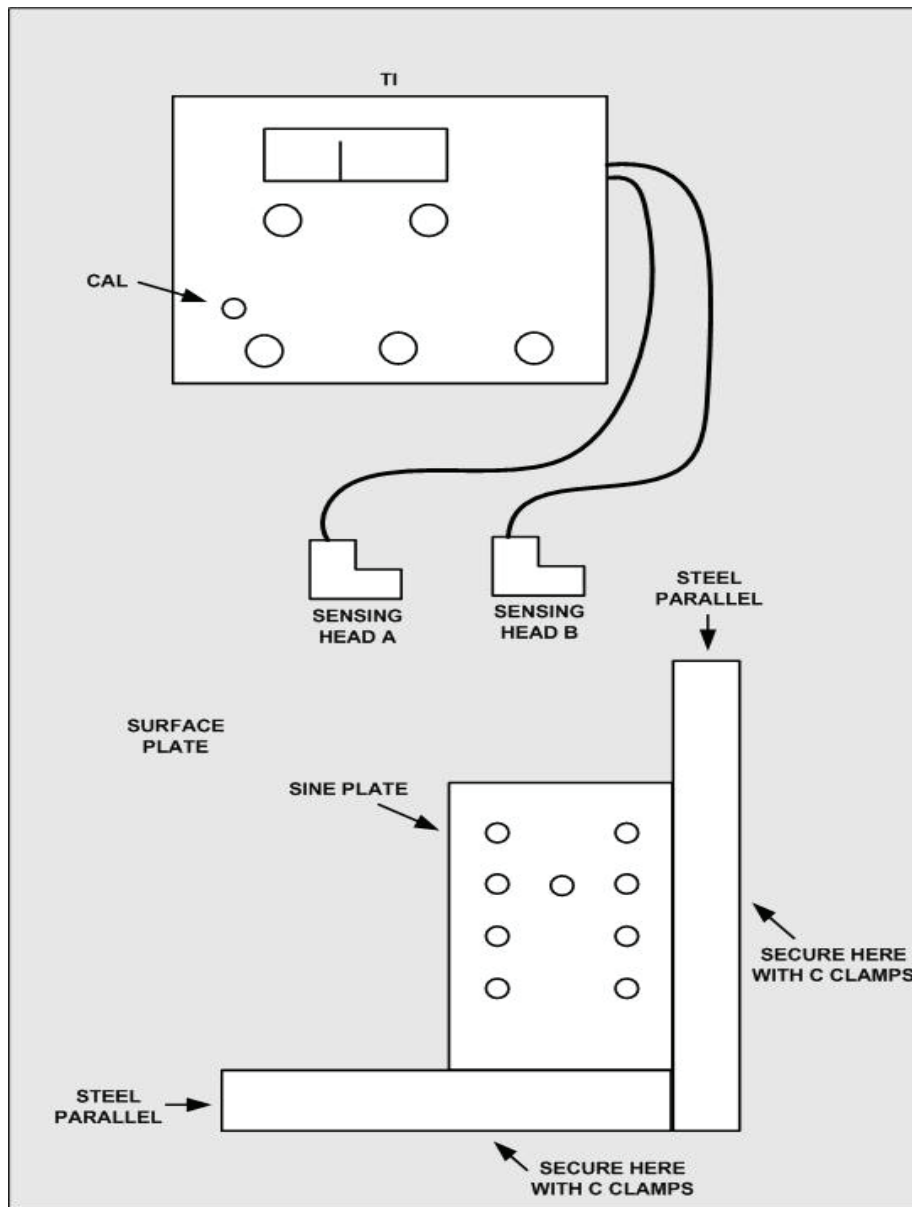

Figure 1. Scale magnification accuracy - equipment setup.
a. Connect TI SENSING HEADS A and B (fig. 1) to GAGE HEAD input A and B on TI rear panel.
b. Assemble equipment as shown in figure 1.
c. Set TI switches as listed in (1) through (3) below:
- (1) Place a 0.125 inch gage block under both ends of sine plate rolls.
- (2) Place SENSING HEAD A (fig. 1) on SINE PLATE (fig. 1) and adjust **ZERO HEAD A** control for a 0 (mid-scale) indication on TI meter.
- (3) Replace a 0.125 inch gage block at one end of sine plate roll with 0.149 inch gage block. If TI meter does not indicate $+990 \pm 40$ (right deflection), perform **b** below.
- (4) Replace 0.149 inch gage block with 0.101 inch gage block. If TI meter does not indicate -990 ± 40 (left deflection), perform **b** below.
- (5) Set **GAGE HEAD** selector switch to **B** and repeat technique of (1) through (4) above for SENSING HEAD B (fig. 1). If TI meter indications are not within limits, perform **b** below.
- (1) Set **GAGE HEAD** selector switch to **B**.
- (2) Replace 0.149 or 0.101 inch gage block with 0.125 inch gage block at end of sine plate roll.
- (3) Place SENSING HEAD B (fig. 1) on SINE PLATE (fig. 1) and adjust **ZERO H HEAD B (ZERO HEAD A)** control for a 0 (mid-scale) indication on TI meter.
- (4) Substitute 0.149 and 0.101 inch gage blocks in turn for a 0.125 inch gage block at the same end of sine plate roll and adjust gain control (recessed in hole in center of range selector switch) for best compromise or balance of + (right deflection) and - (left deflection) indications on TI meter.
- (5) Repeat (2) through (4) above until no further adjustments are required.
- (6) Set **GAGE HEAD** selector switch to **A** and repeat technique of (2) through (5) above for SENSING HEAD A (fig. 1) except adjust CAL control (fig. 1) in (4) above.